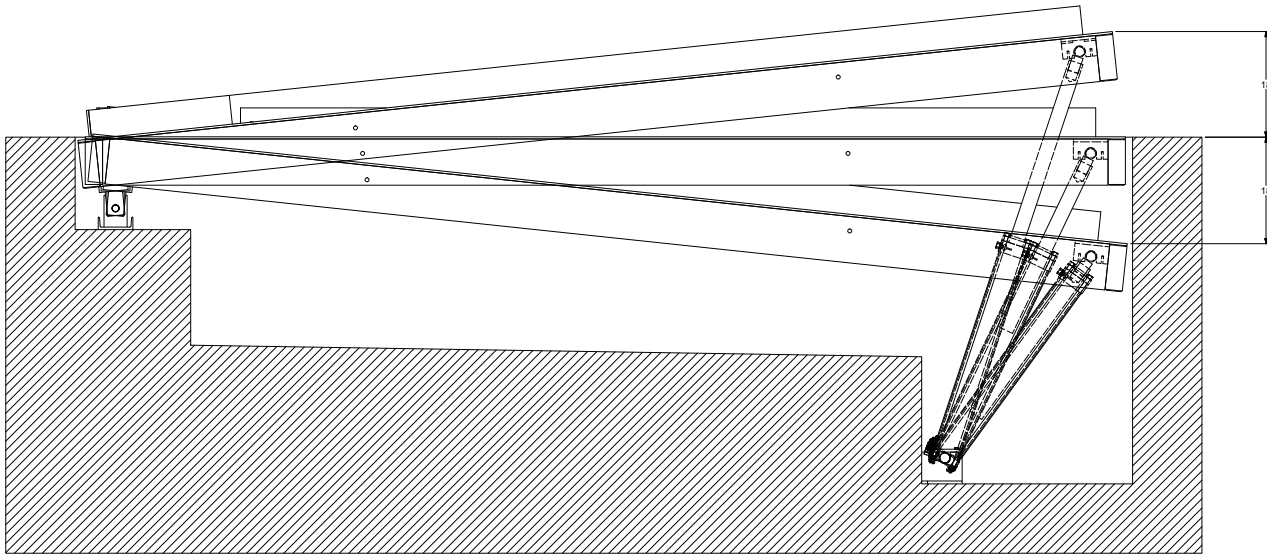

Figure 14
9. Perform steps 4-8 at least four times to purge any air that may be in the hydraulic system and to ensure proper operation. See Figure 14.